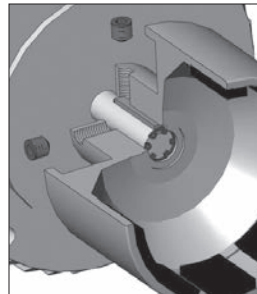

Figure 7
NEMA Motors: Install (2) 3/8" set screws (item 17B) into threaded holes on the side of the outer drive magnet assembly. Using a 3/16" Allen wrench, tighten to 228 in-lbs (25.8 N-m). See figure 7.